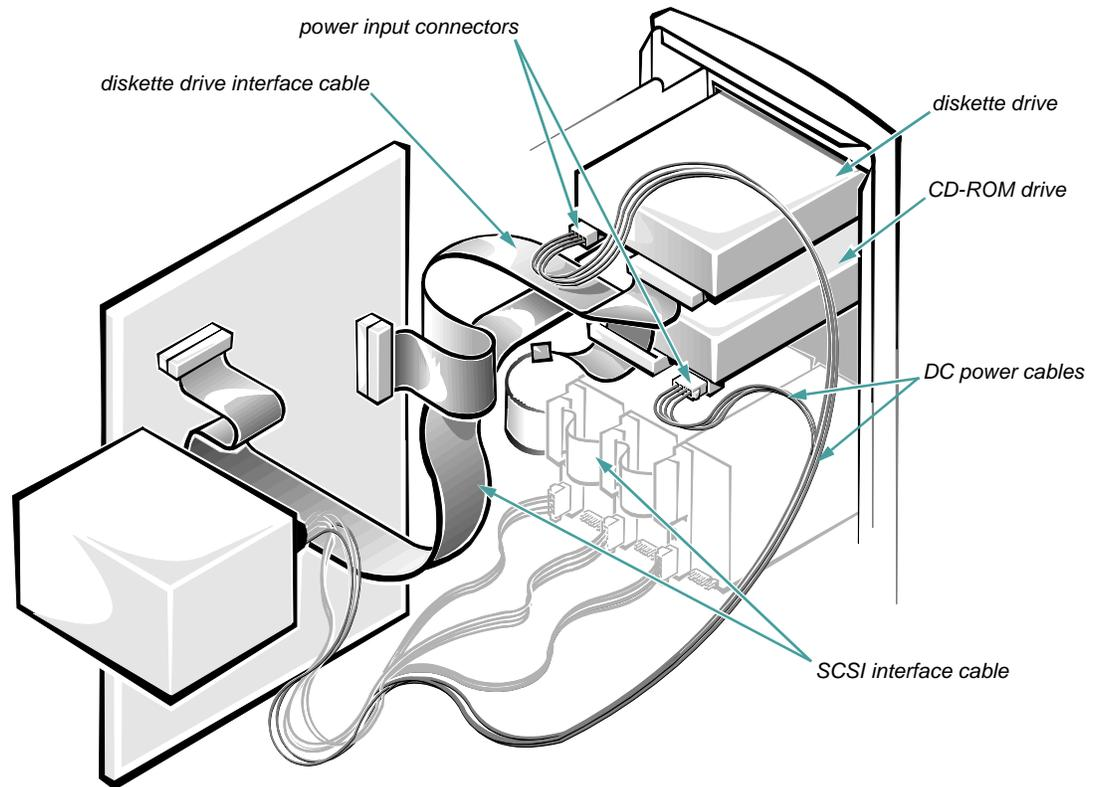

Figure 8-1. External Drive Bay Hardware
The external drive bays at the front of the computer (Figure 8-1) hold up to three user-accessible, half-height 5.25- or 3.5-inch devices—typically diskette, tape, CD-ROM, or digital audio tape (DAT) drives. Standard PowerEdge 2100 systems include a diskette drive in the top bay and a CD-ROM drive in the middle bay. A drive of your choice can be installed in the lower bay.
See Figure 8-1 for an internal view that shows the drives, control cables, and power cables in the external bays.
4. Connect a DC power cable and the diskette interface cable to the back of the drive (see Figure 8-1).
4. Connect a DC power cable and one of the connectors on the SCSI interface cable to the back of the drive (see Figure 8-1).